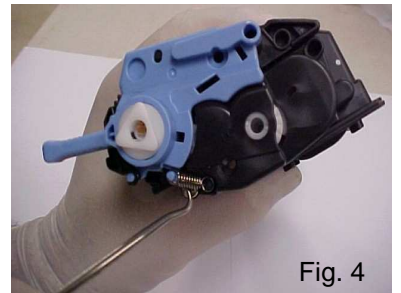

Fig. 4
4. Remove the two cartridge springs from the sides of the cartridge (Fig. 4). Notice the black spring and remember it's location on the cartridge.